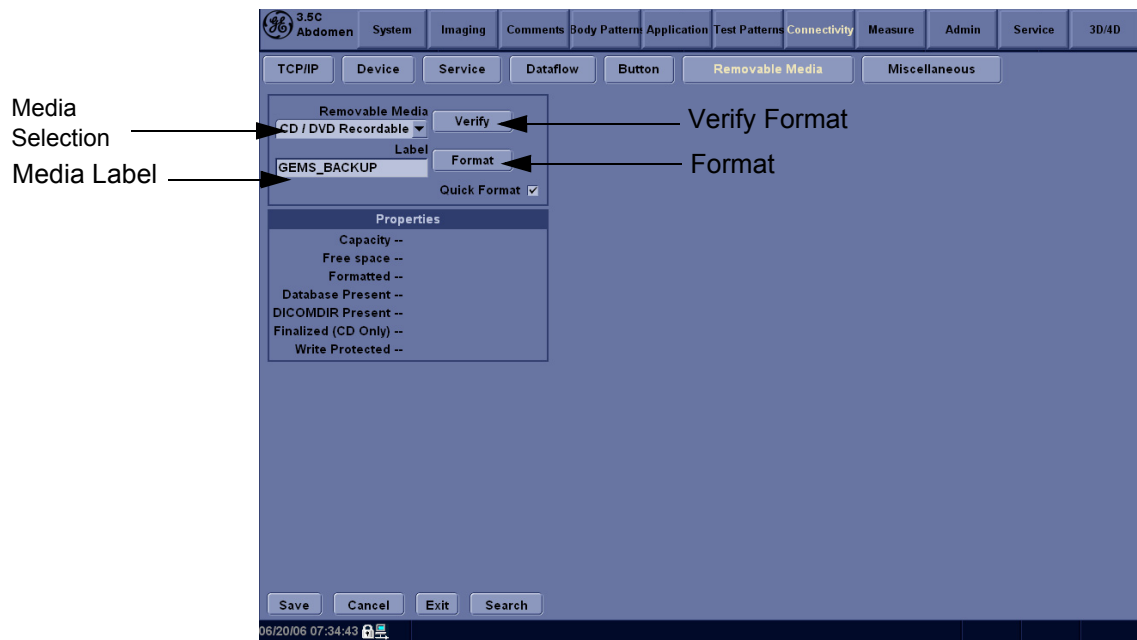

Figure 4-14 Format and Verify Media
- 4.) Enter the label for the media as shown in Figure 4-14. It is best to use all capital letters with no